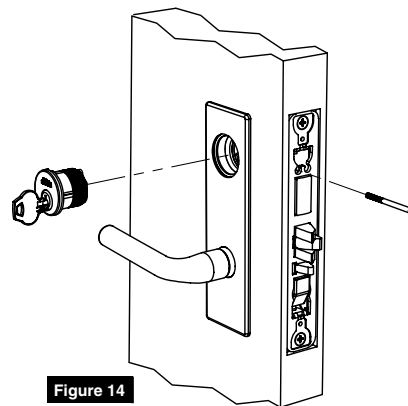

Figure 14
7. Install cylinder. Secure with cylinder set screw. (Figure 14)